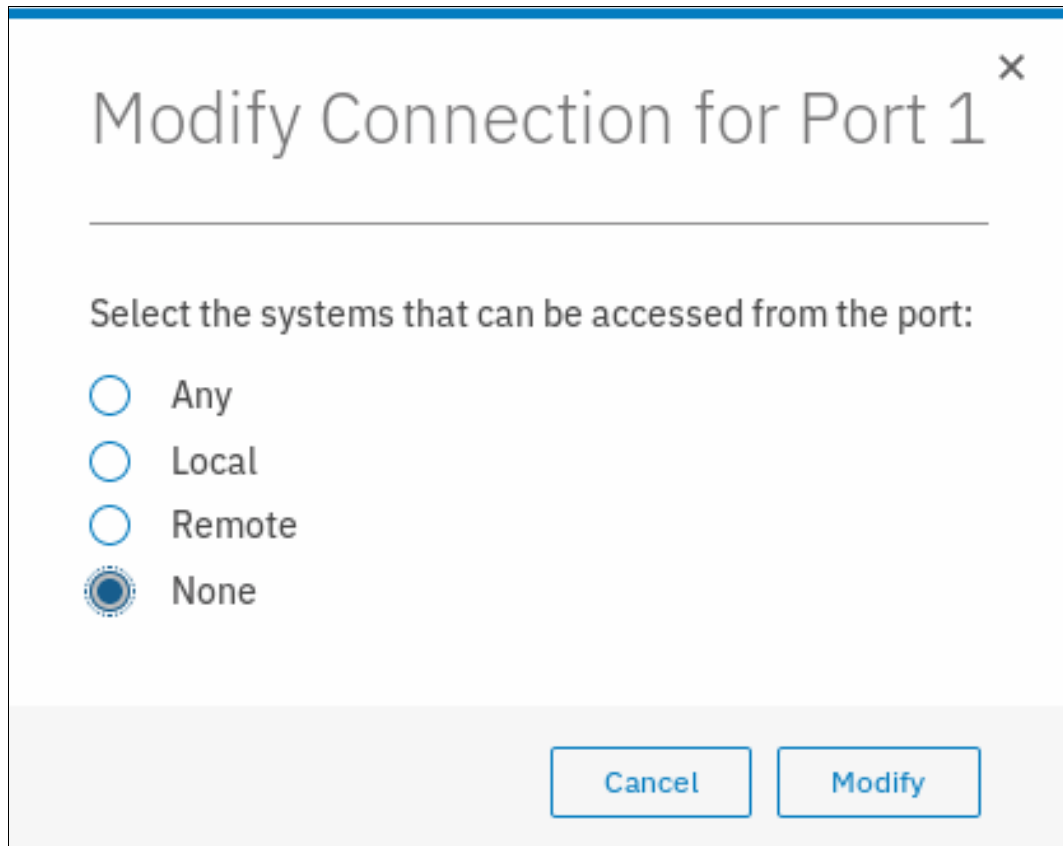

Figure 5-53 Modifying the connection for Ports 3 and 4
3. To configure a port, select the port, and from the **Actions** menu, select **Modify Connection**. The window that is shown in Figure 5-53 opens.